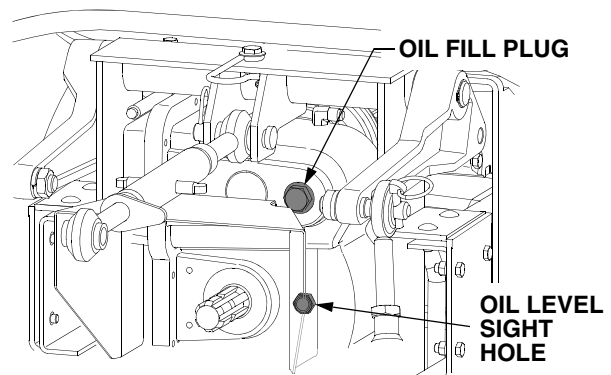
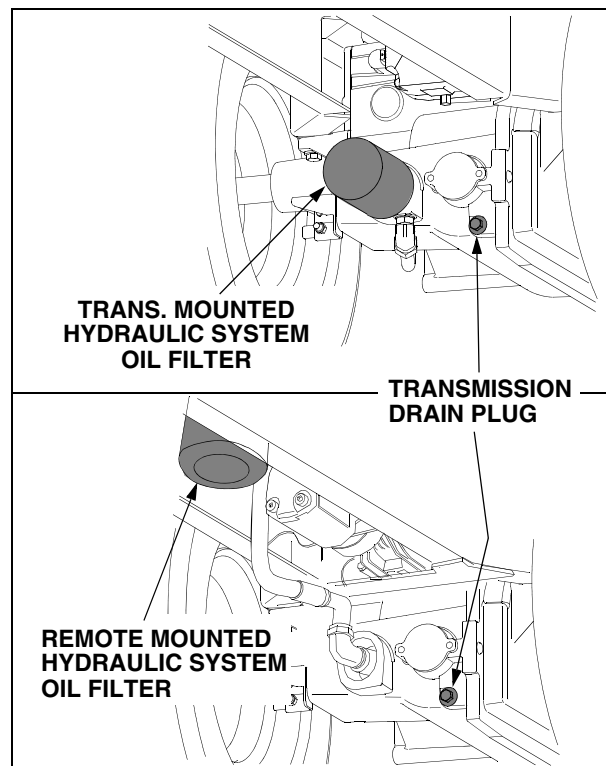

Figure 44
Figure 46
The oil level sight glass is located in the rear of the transmission housing, just to the right of the rear PTO shaft. See Figure 44.
- Locate the oil fill plug on the upper right of the rear of the transmission housing. See Figure 44.
- The hydraulic system oil filter is either mounted horizontally on the front of the transmission housing, or is remotely mounted in the vertical position between the tractor frame rails. Refer to Figure 46.
- Position a suitable container below the hydraulic system filter. See Figure 46.
- Clean the area around the transmission fill plug to prevent debris from entering the transmission (Refer to Figure 44) and remove the plug.
- Clean the area around the transmission drain plug and the oil fill plug to prevent debris from entering the transmission. Refer to Figure 44 and Figure 46.
- Remove the oil fill plug to help vent the transmission, then remove the drain plug and allow the transmission oil to drain into the container(s). Reinstall the drain plug after draining the oil. Refer to Figure 44 and Figure 46.